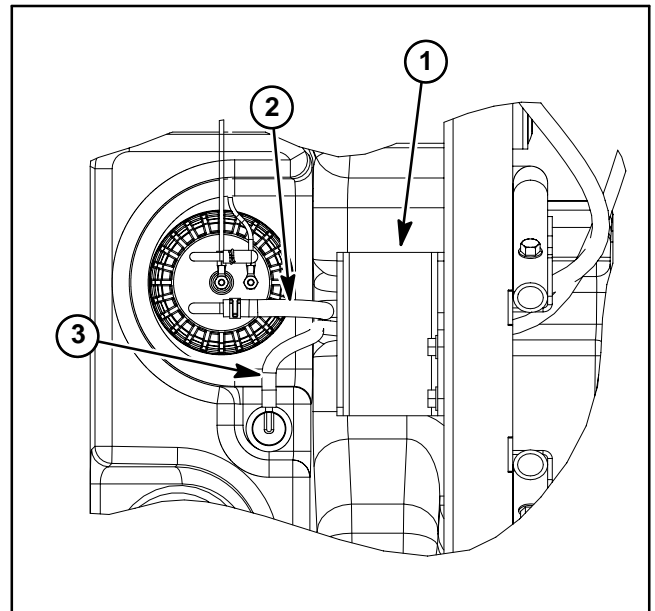

Figure 7
4. Note routing of fuel hoses for installation purposes (Fig. 7). Disconnect fuel hoses from fuel sender and rollover valve. Plug fuel hoses to prevent leakage or contaminant entry.
5. Remove washer head screws (item 7) and retainer plate (item 18) that secure fuel tank.
2. Remove plugs placed in fuel hoses during fuel tank removal. Connect fuel hoses to fuel sender and rollover valve (Fig. 7). Secure fuel hoses with hose clamps.
4. Position retainer plate (item 18) to tank and frame. Make sure that fuel hoses are correctly placed under retainer. While pressing down on retainer plate to best retain tank, install and tighten washer head screws (item 7) to secure fuel tank.